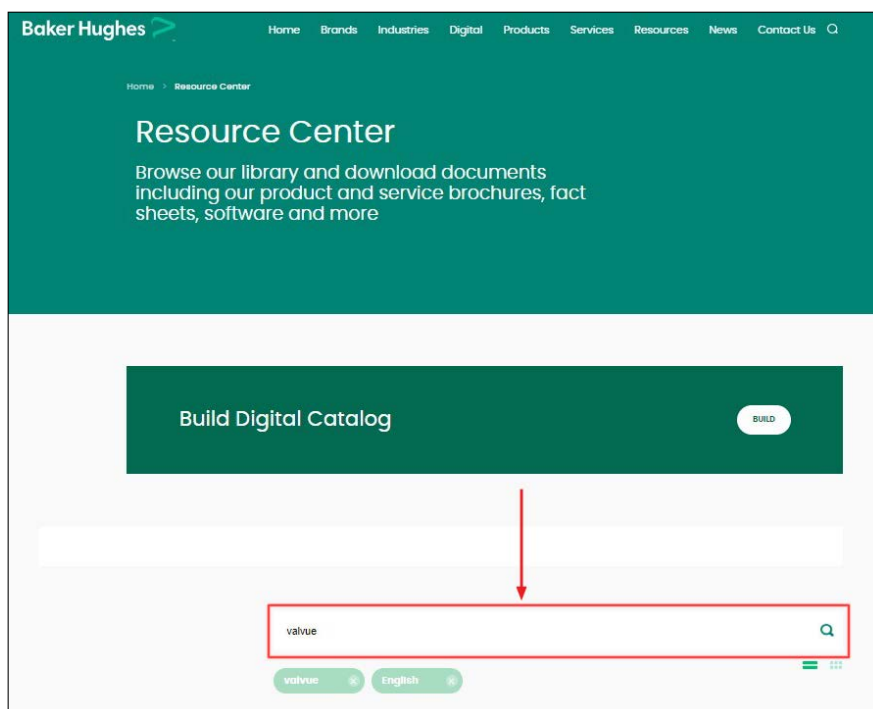

Figure 2 - Resource Center: Search for Valve3
1. Go to the Resource Center (<https://www.valves.bakerhughes.com/resource-center>) and enter ValVue in the search field (arrow in Figure 2).
The results appear (red box in Figure 2).